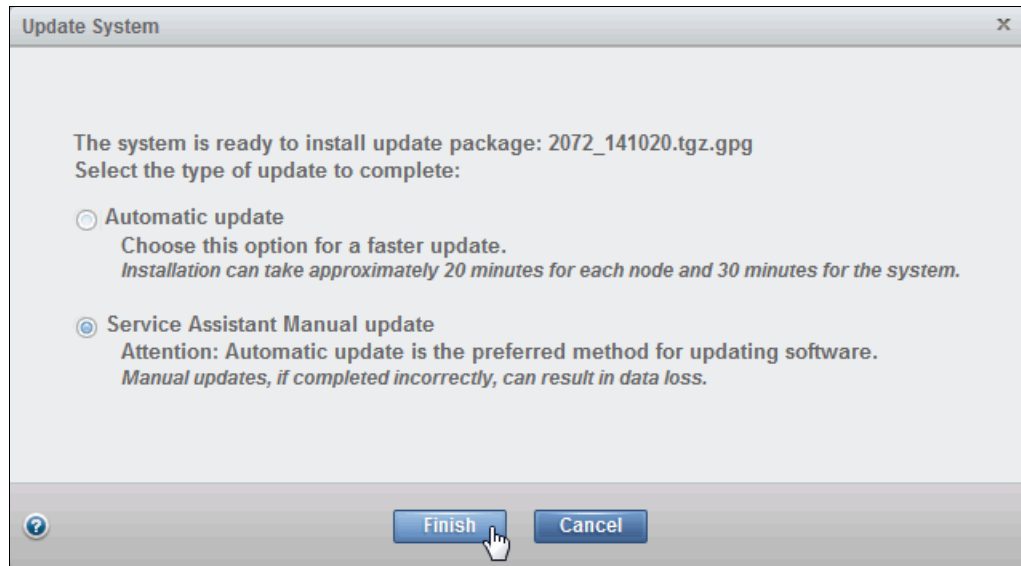

Figure 11-36 Select manual update mode
4. At the next pane, select **Service Assistant Manual update**, as shown in Figure 11-36.